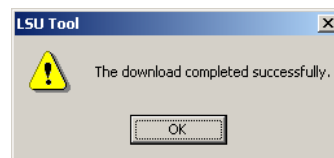

Figure 153: Successful Firmware Upgrade
3. If the upgrade is successful, the following window appears (Figure 153).